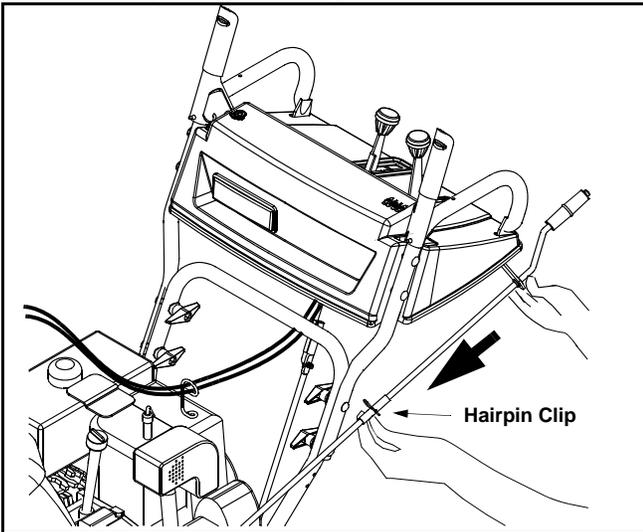

Figure 4
- Remove the hairpin clip from the chute directional control. Align holes on the upper and lower pieces of the chute directional control before reinserting the hairpin clip. See Figure 4.